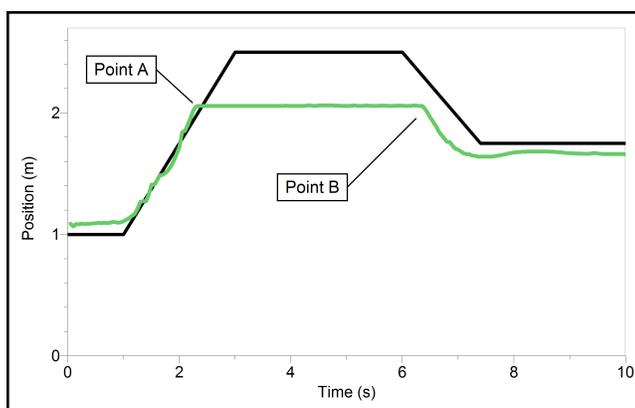

Figure 1 Position vs. time graph showing an unintentional reflection when a student walked behind a chair (Point A).
4. If an object gets in the way, causing an unintentional reflection, it will affect the graph. In the example in Figure 1, a student was trying to match the dark line. She stood in the same location for 1 second and then moved away from the motion detector. At Point A, she was still moving away, but the motion detector started to measure the distance to a chair that was closer to the detector, rather than tracking the student. Before Point B, the student had started to walk toward the motion detector. At Point B, she walked past the chair, and the motion detector started to measure the position of the student rather than the chair.